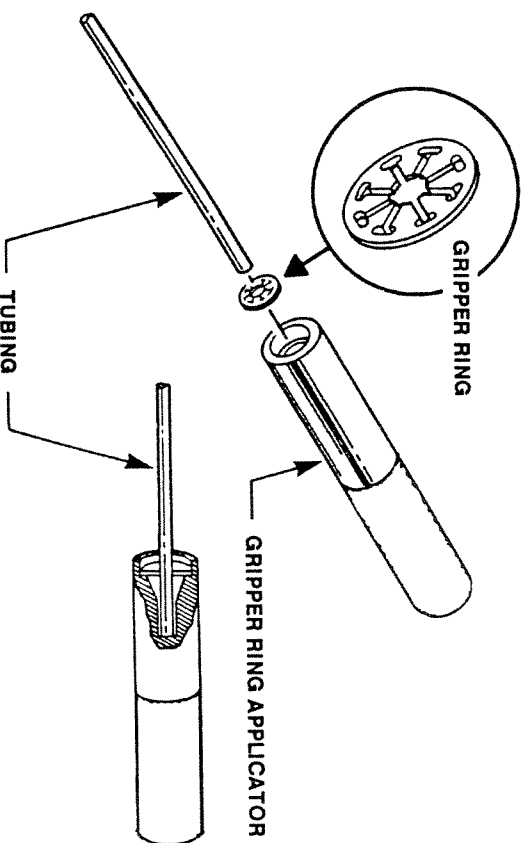

FIGURE 4-3 FERRULE AND COMPRESSION ASSEMBLY
3. Place the gripper ring in the top depression of the tool (Figure 4-3). Insert the end of the tubing into the gripper ring tool as far as it will go. This will seat the gripper ring at the proper length of the tubing.